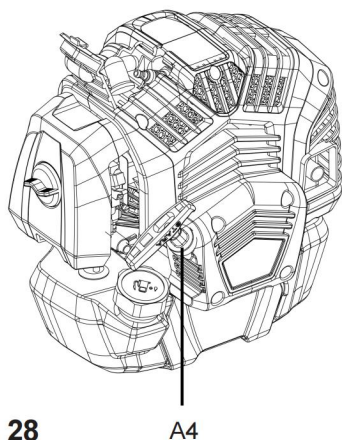

Fig. 28
2. Hold the product stable and pull the recoil starter handle lightly until you feel resistance then pull it rapidly. Do it again until the engine starts (Fig. 28).